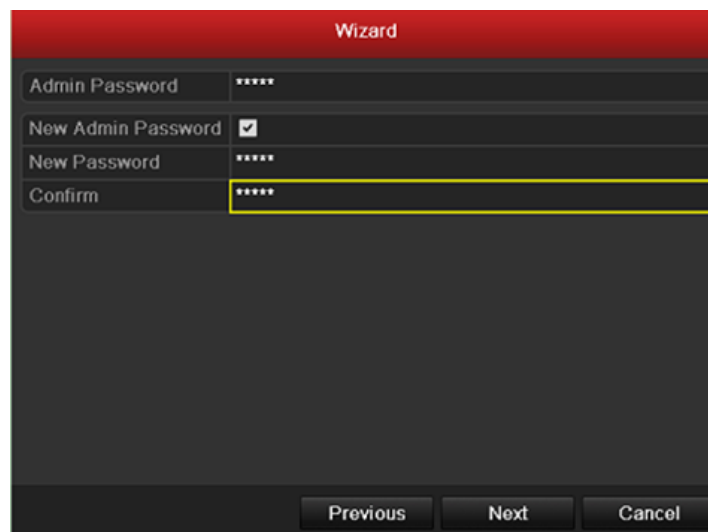

Figure 2.2 Login Window
2. Click **Next** button on the Wizard window to enter the **Login** window, as shown in Figure 2.2.